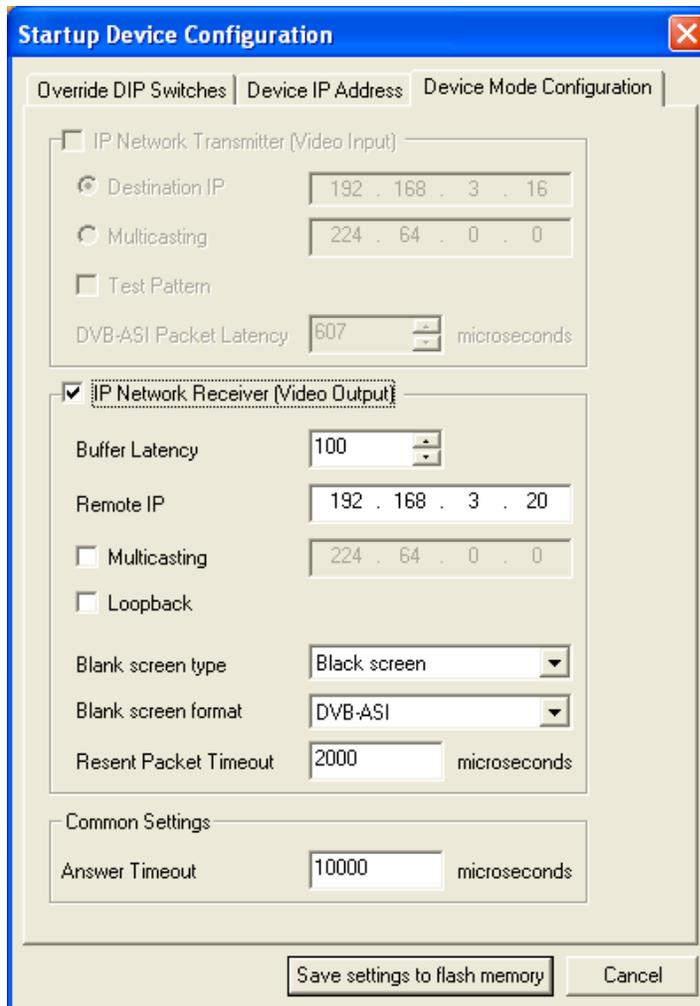

Figure 5: Current Device Configuration Dialog with IP Network Receiver Selected
- 5) Right-click on the engine entry and select 'Current Settings...' from the drop-down menu. This will open the Current Device Configuration dialog, as shown in Figure 5.